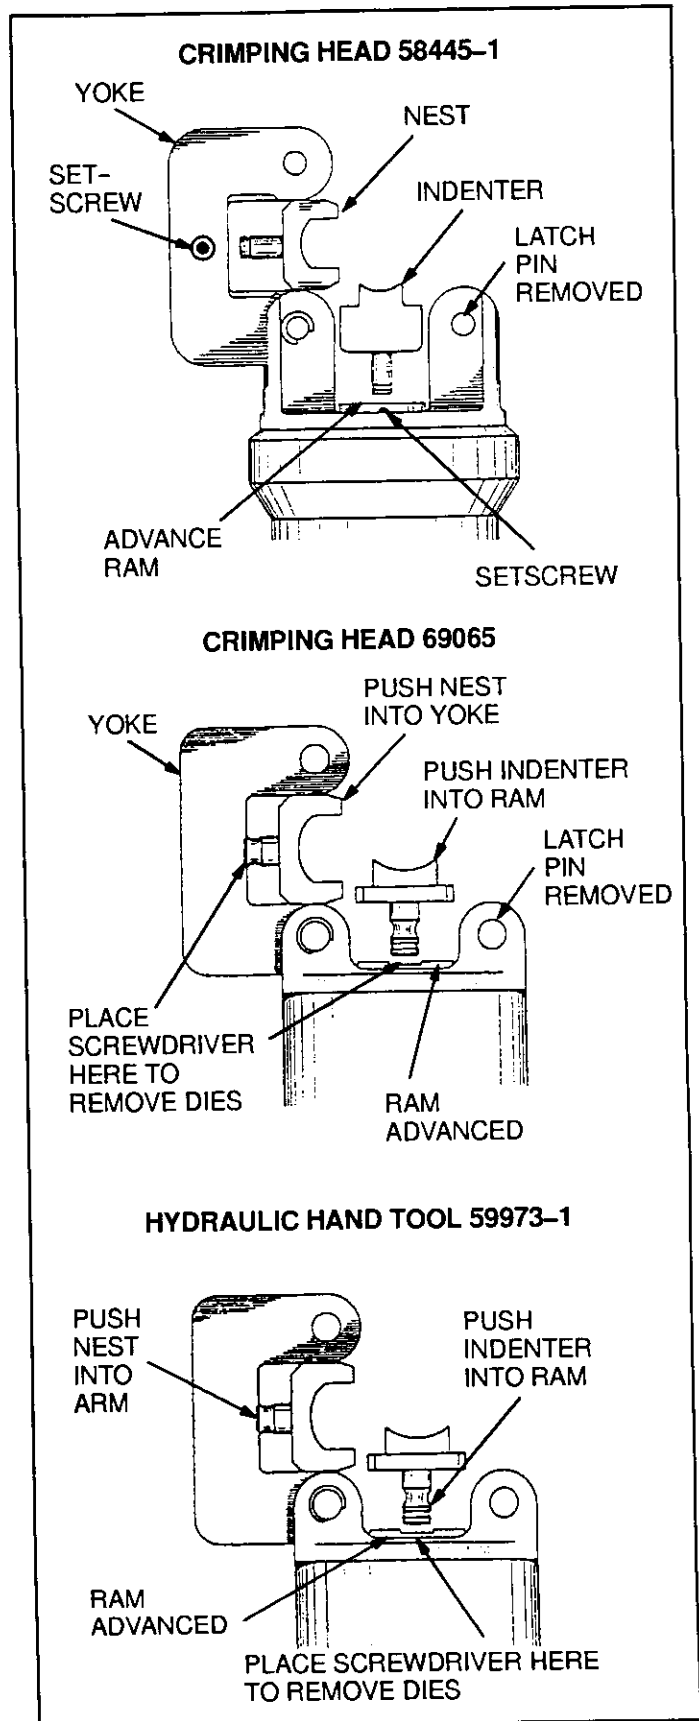

Fig. 3
A. Crimping Head 58445 (Figure 3)
B. Crimping Head 69065 (Figure 3)
3. Activate power unit to advance ram to approximate position shown in Figure 3.
C. Hydraulic Hand Tool 59973-1 (Figure 3)